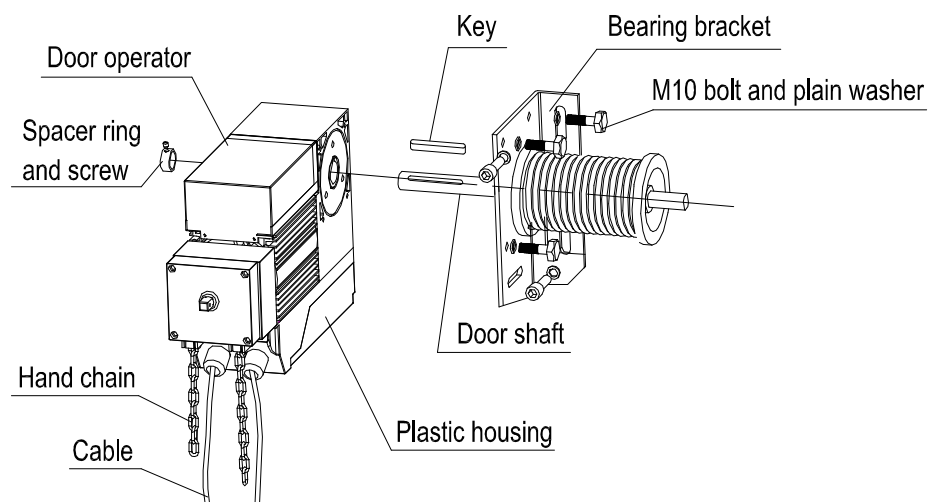

Fig. 5
- You also can install the door operator as shown in Fig.5.
(2) Mounting via chain drive.